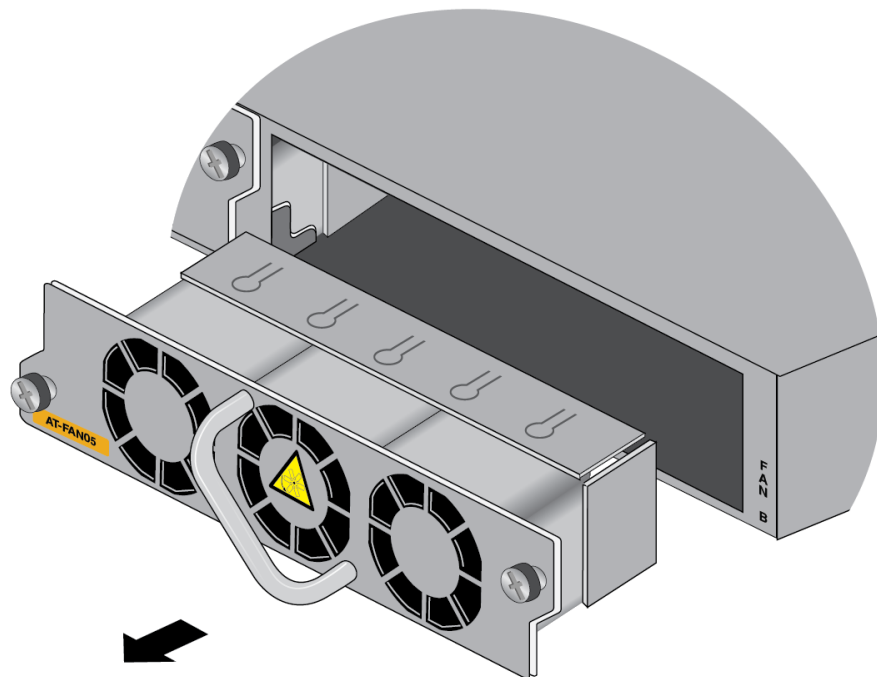

Figure 153. Sliding the Fan Module from the Switch
3. Slide the fan module out of the switch. Refer to Figure 153.